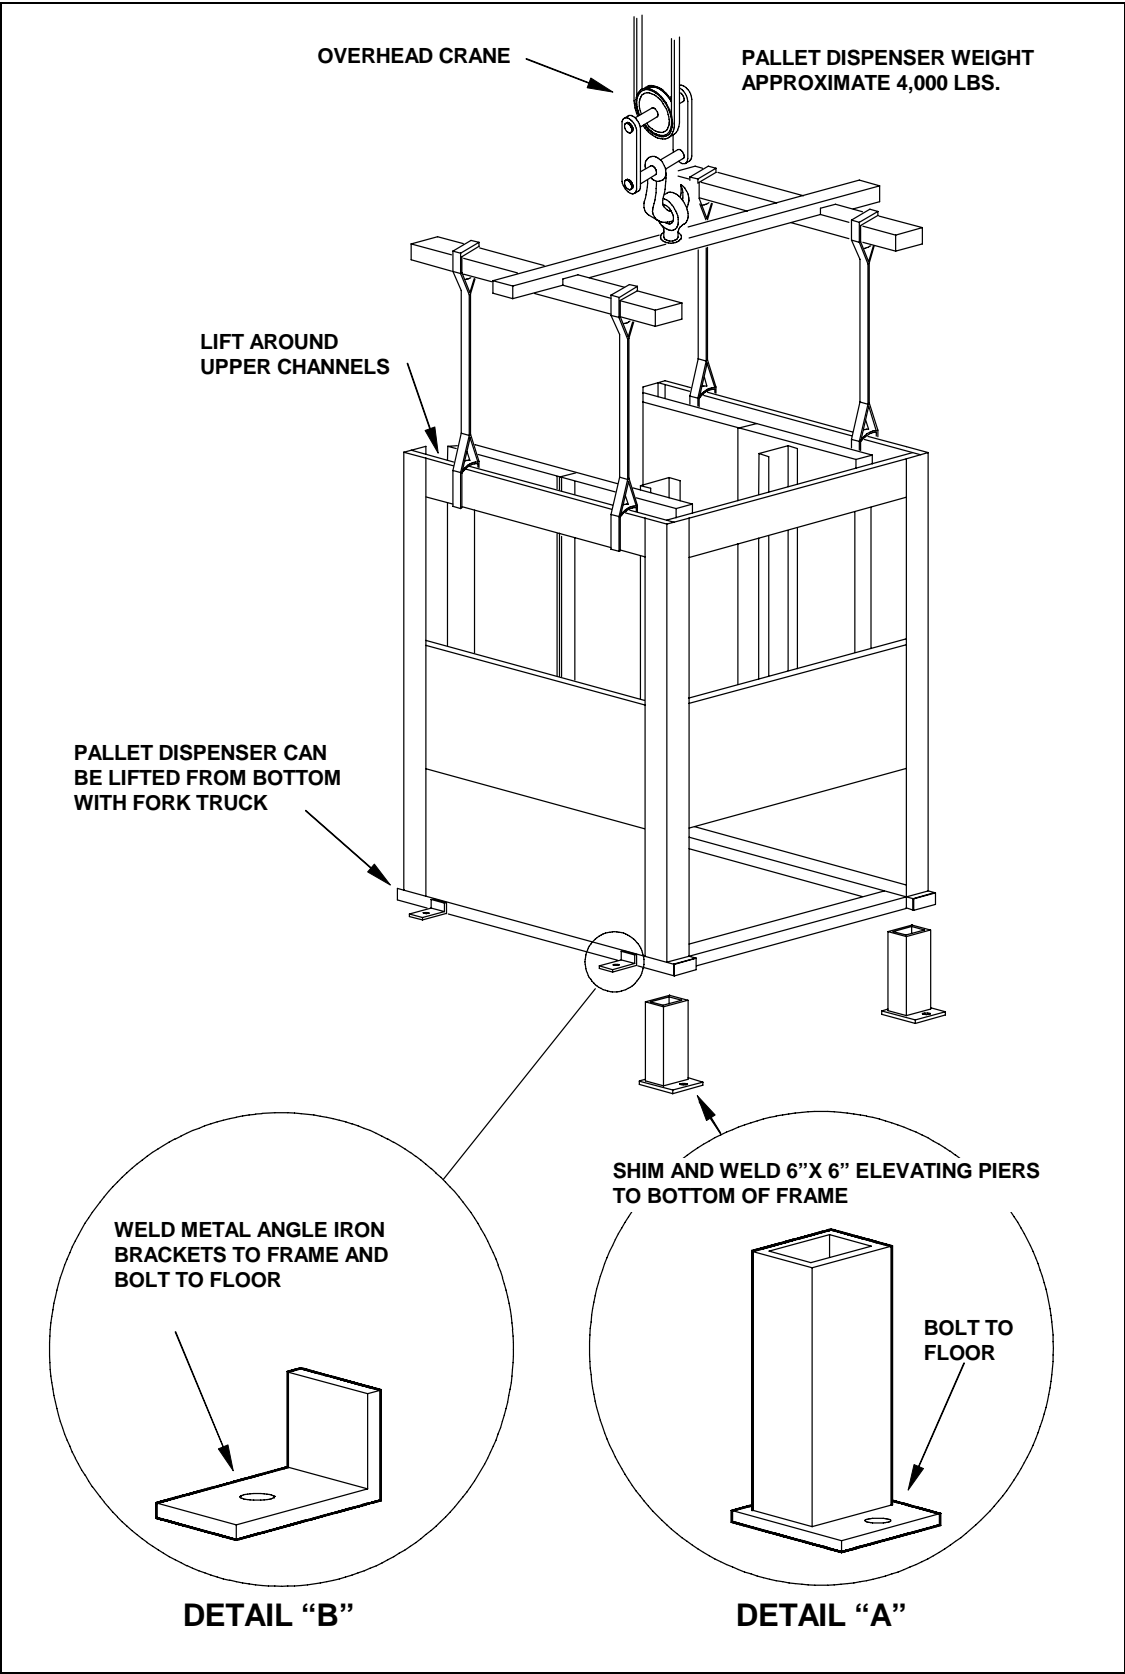

Figure 6-5: Lifting & Anchoring the Pallet Dispenser
1. If required, install "optional" elevating piers under the pallet dispenser. (See Figure 6-5, Detail "A".)
2. If "optional" elevating piers are not required, weld the metal angle iron brackets (angle iron brackets provided) to the base frame for anchor bolting the pallet dispenser to the floor. (See Figure 6-5, Detail "B".)